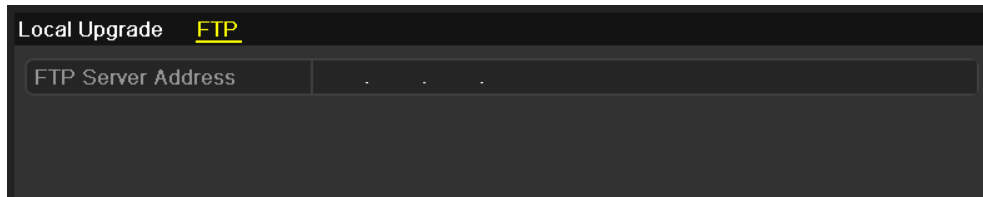

Figure 14-8 FTP Upgrade Interface
Step 2 Click the **FTP** tab to enter the local upgrade interface, as shown in Figure 14-8.